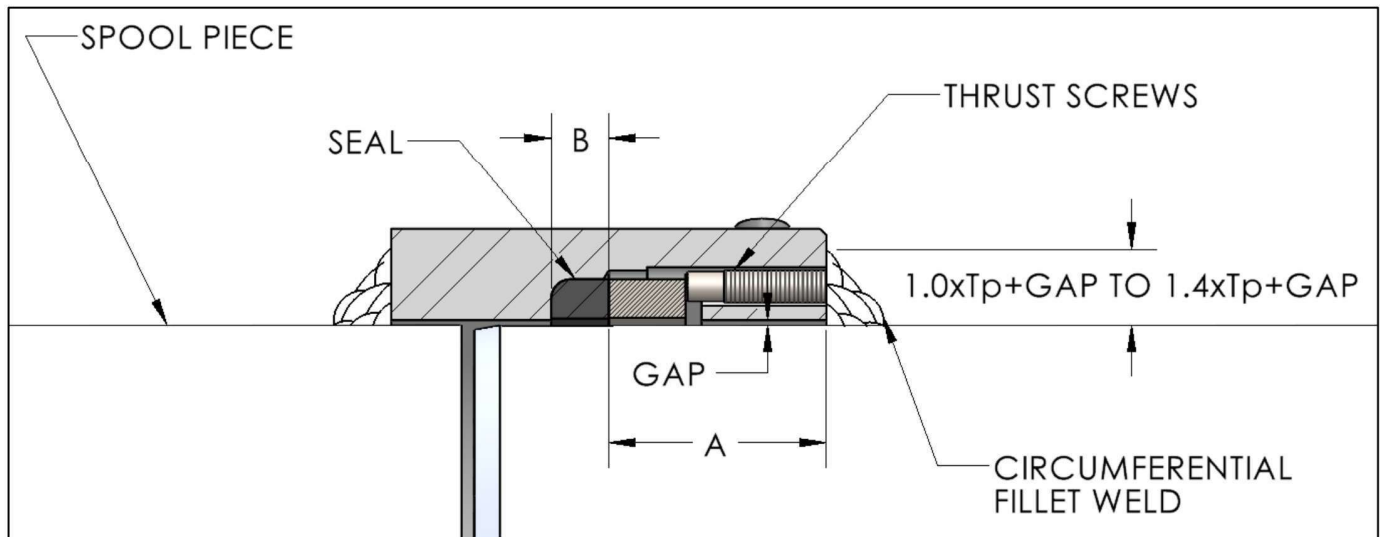

Figure 9
During welding the temperature around the seals must be monitored. Dimension "A", as measured during the initial installation, should now be used to mark off the location "B", as shown in Figure 9. To prevent damage to the seals, monitor the heat generated by welding or preheating, particularly at location "B", by using temperature crayons or probe thermometers. If the heat generated approaches the temperature limit of the seal material, which is indicated in the seal lubrication chart, welding should be discontinued or sequenced to another part of the fitting so that the affected area has a chance to cool.
1. Cut thrust screws so they are flush with the PLIDCO Half Weld+End. (See Figure 9)
2. Add a fillet weld to the end of the Half Weld+End around the circumference of the pipe, and seal weld the End of the cut off thrust screws. (See Figure 9)